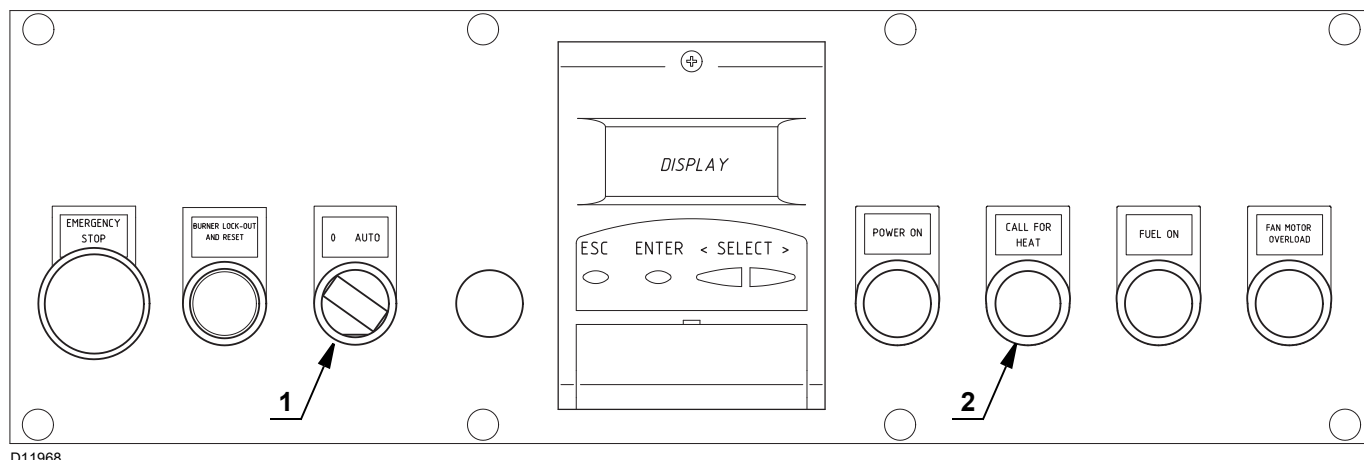

Fig. 31
Close the remote controls and set the switch to 1)(Fig. 31) in “**AUTO**” position.
When the limit thermostat (TL) is closed, the heat request indication “**CALL FOR HEAT**” 2)(Fig. 31) must be displayed and the burner starts the starting cycle.